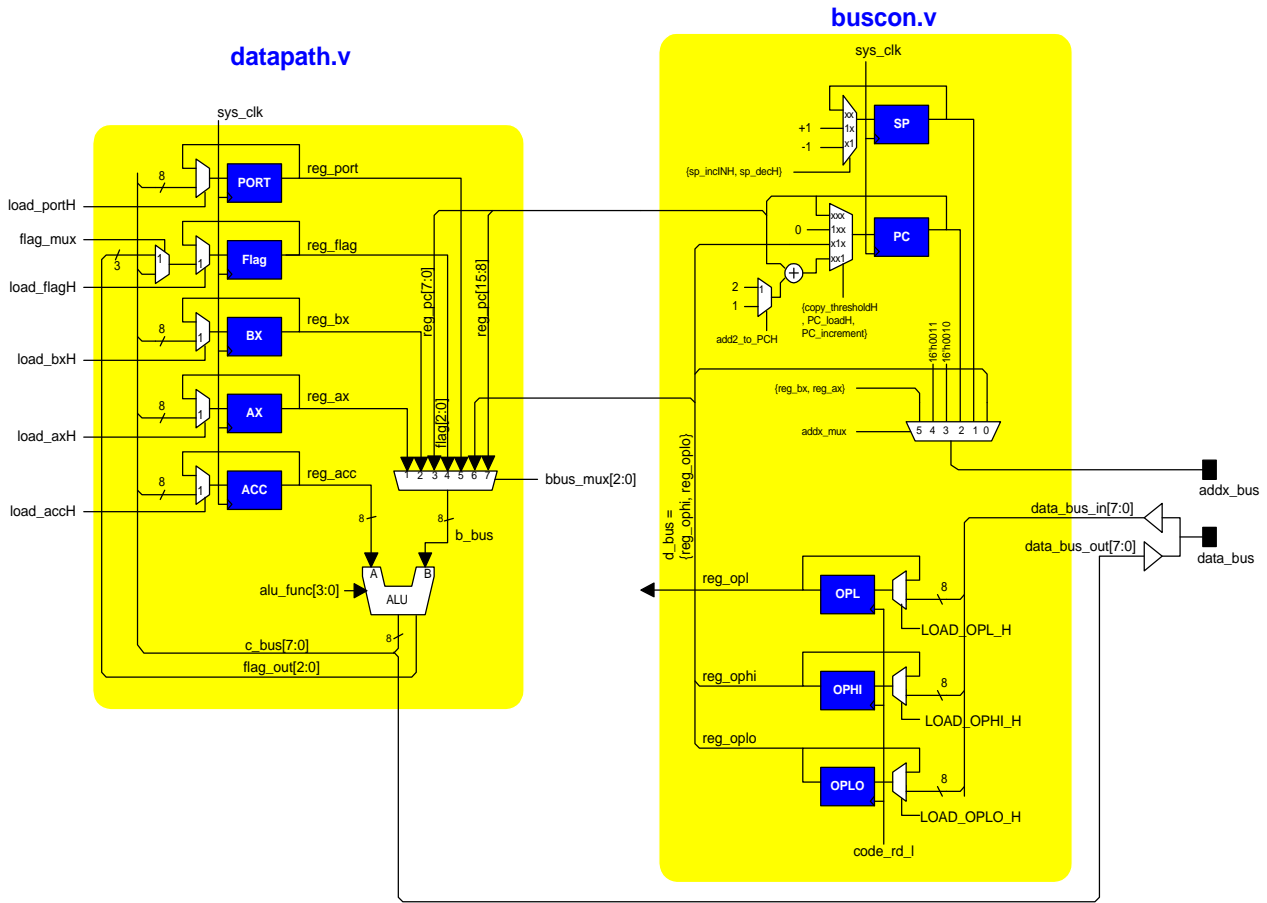

Figure 7 Popcorn.v Datapath block diagram
1. "Interrupt Request" is sampled by the processor core on every EXECUTE state (see figure 7, sequencer state machine)
Datapath contains the data flow logic. Refer to figure 7. An ALU, and the register file comprises the heart of datapath. The register file is reduced to the bare minimum. There are: accumulator or ACC, AX register, BX register, PORT register and FLAG register.